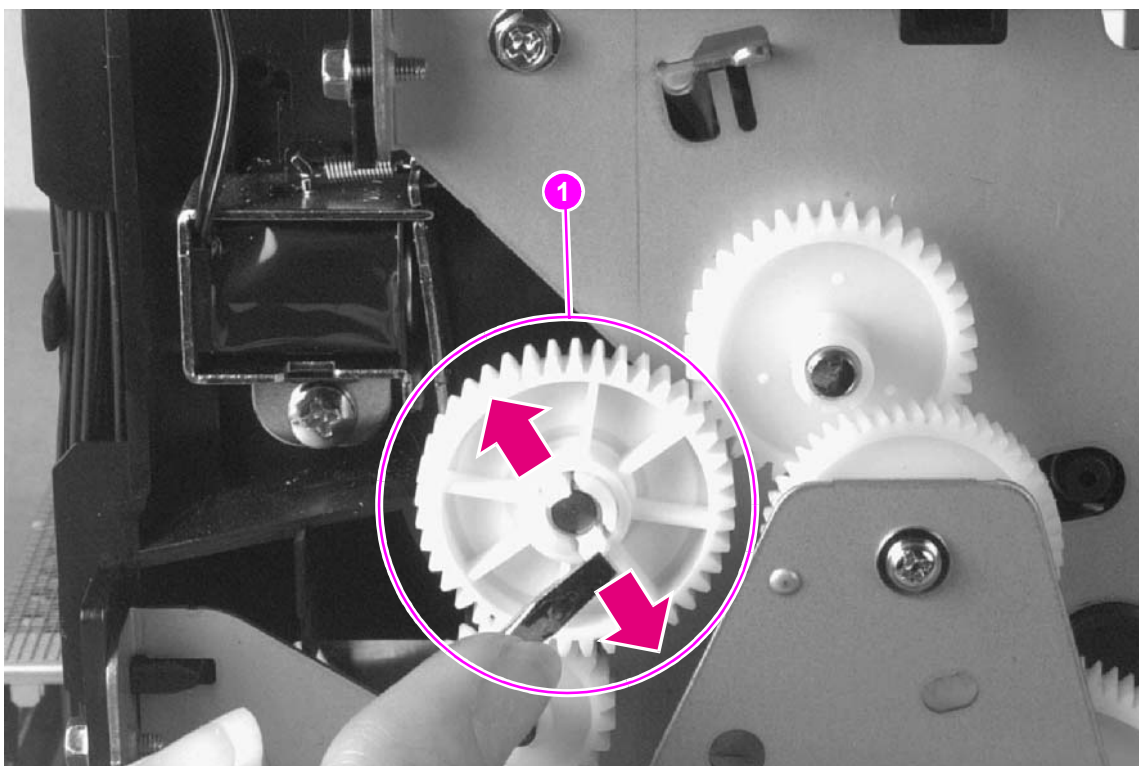

Figure 6-21 Solenoid removal (1 of 2)
- 2 On the left side of the printer, remove the paper pickup gear (Figure 6-21, callout 1) by pressing the tabs in the center of the gear outward and pulling the gear off (Figure 6-21).
- 2 Remove the paper pickup gear (Figure 6-21).